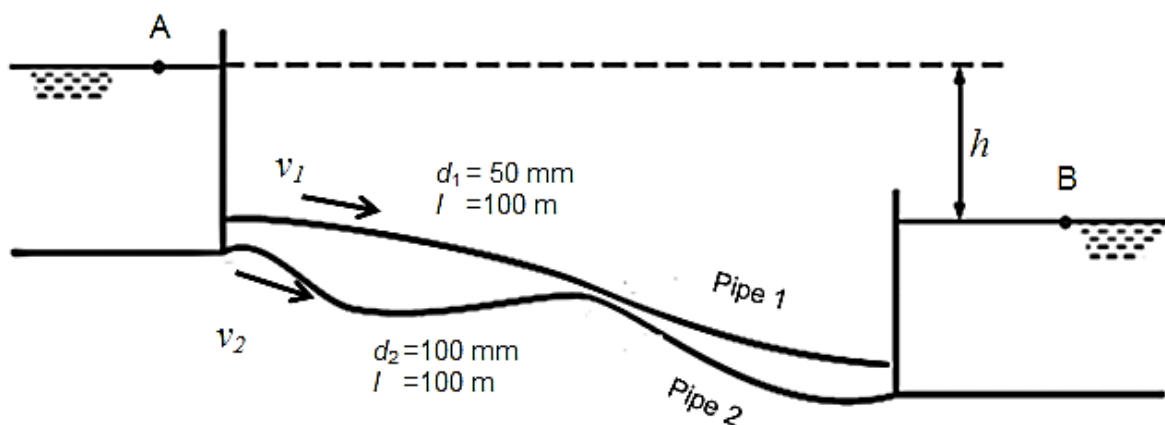

Figure1/Rajah 1
- (b). Determine the value of h and discharge in Pipe 2 in **Figure 1**, if the discharge in Pipe 1 is 19 L/s. Both pipes are cast-iron with each length of 100 m. Pipe 1 and Pipe 2 are 0.05 m and 0.1 m in diameter respectively. Assume both entrance and outlet controls are smooth-edge.